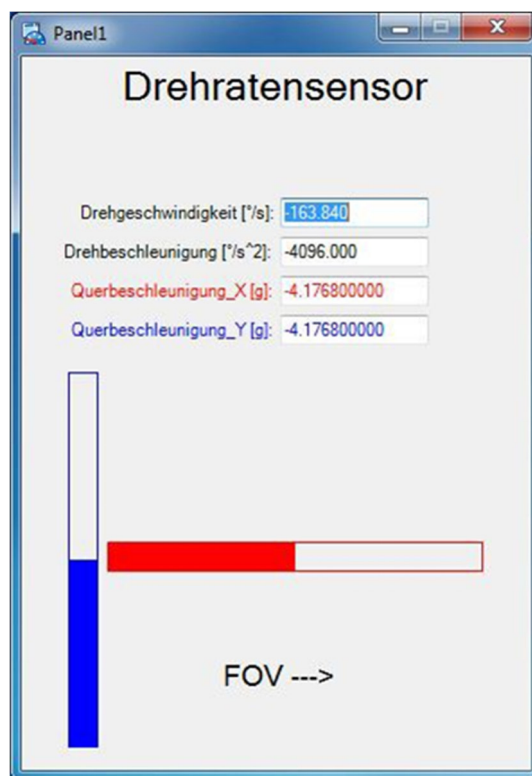

Figure 2.2: example of a CANoe panel
- On the following figure 2.2, you can find an example of how to visualize the signals. The different elements can be selected by the toolbox on the right hand and fixed on the panel's surface by drag and drop.